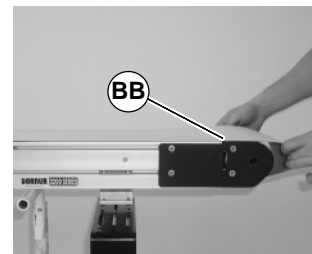

Figure 33
3. Install belt (BB of Figure 33) on conveyor. Lift conveyor slightly to avoid pinching belt on temporary support stands.